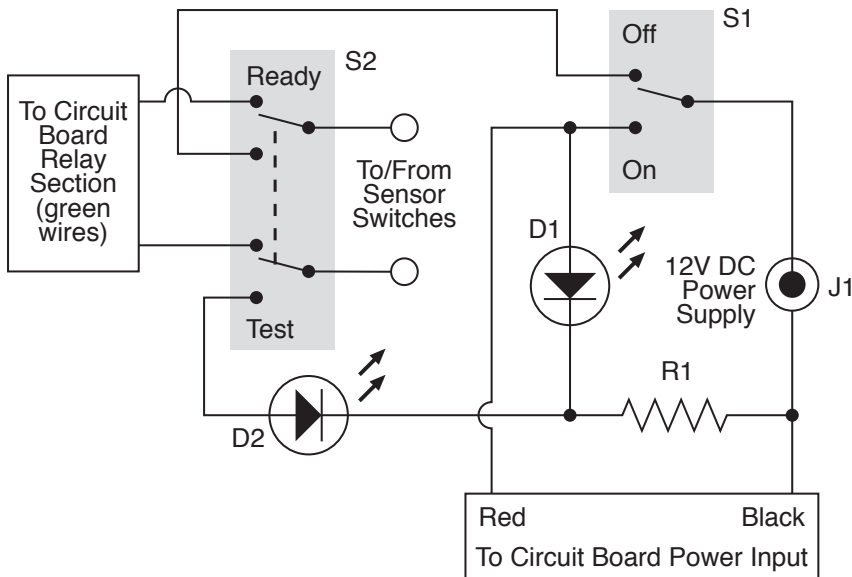

Figure 3-106. This schematic suggests a convenient way to add an on/off switch, a continuity testing feature, and a noisemaker testing feature to the alarm.
The circuit shown in Figure 3-106 incorporates all of these features. S1 is a SPDT switch; S2 is a DPDT momentary pushbutton of ON-(ON) type. The schematic shows it in its "relaxed" mode, when the button is not being pressed.